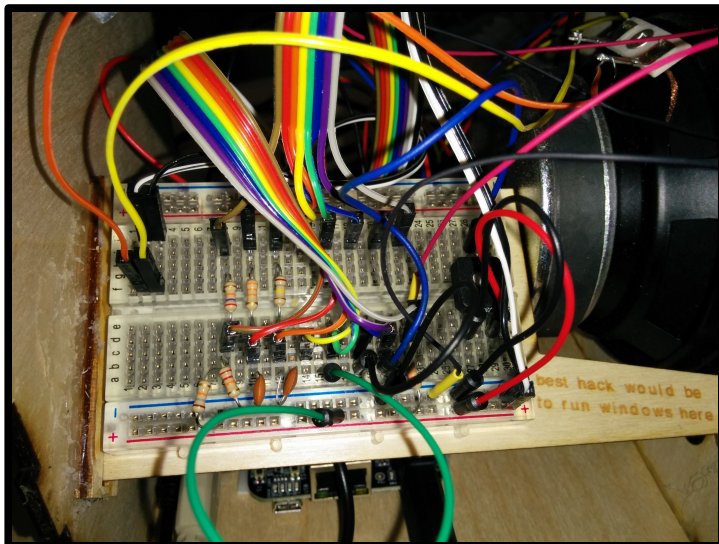

Fig. 1 - The Matrix, like in the movie
- you can experiment a lot by hacking the *Matrix* [all the components on the breadboard, Fig. 1]. It's not very likely that the instrument will break or “brick” by changing this circuitry;